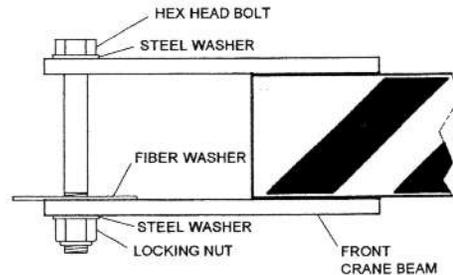

Figure 9
- See figure 9 for center pivot hardware assembly.